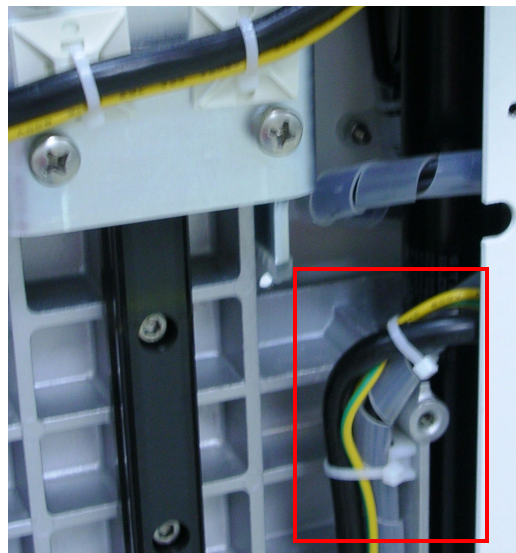

Figure 8-91 Peripheral AC Outlet Cable Fastened to Main Harness Cable
- 7.) Fasten the Peripheral AC Outlet cable to the Main Harness cable as shown in Figure 8-91.